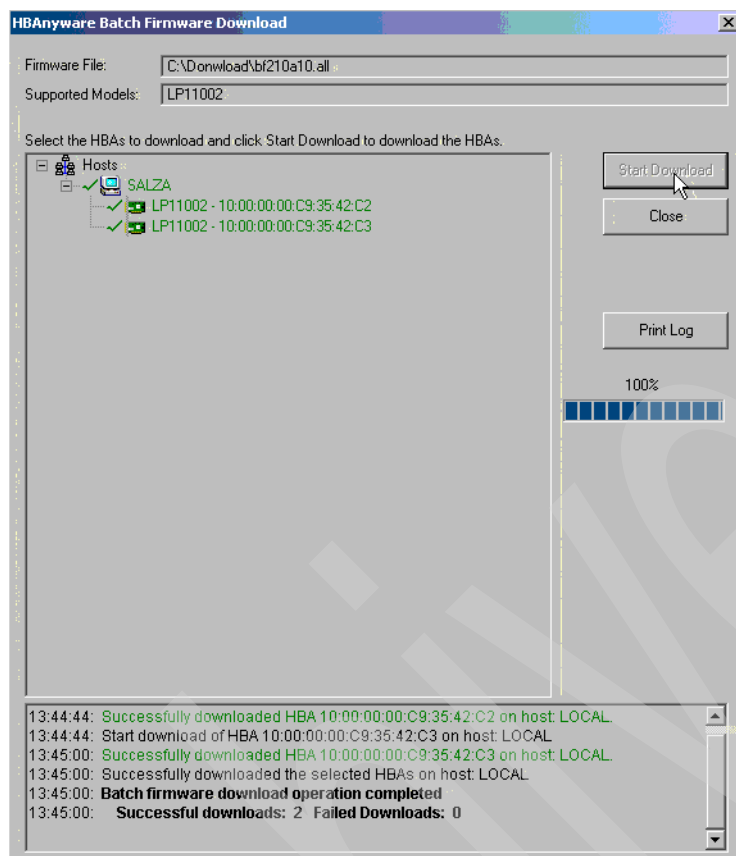

Figure 24-43 Emulex - HBAware - Batch firmware download successful
12. Figure 24-43 shows that the download was successful. Review the summary and click **Close** to exit the window.